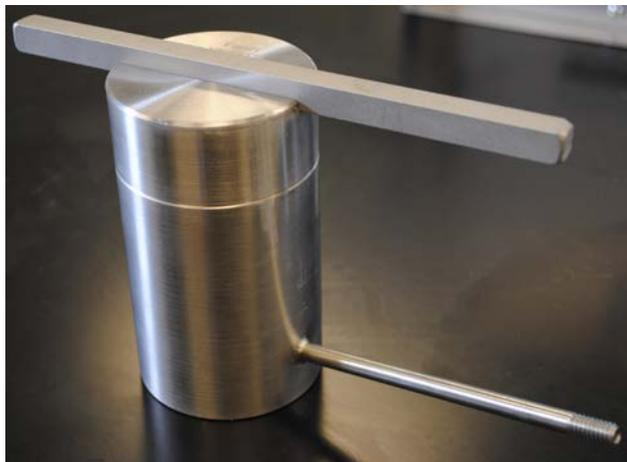

Figure 4-2 Retort Wrench to Separate Chamber Assembly
3. Using the square bar retort wrench, separate the sample chamber from the upper chamber as shown in Figure 4-2,